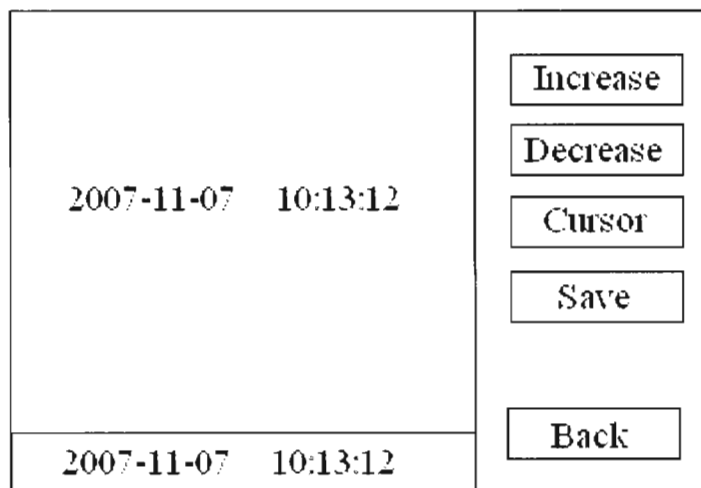

Fig.6
(3) Clock preset interface (see Fig.6)